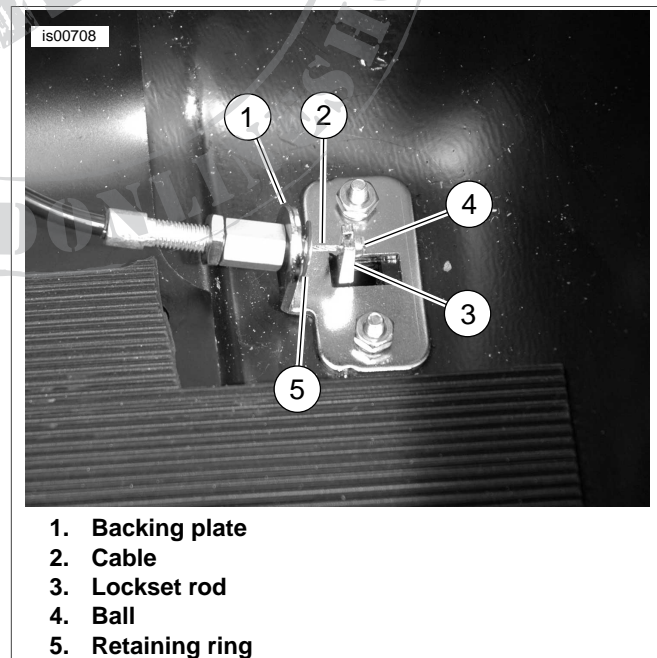

Figure 5. Install Cable Assembly
2. See Figure 5. Remove retaining ring at adjustment nut end of cable assembly.
3. Insert cable end through hole in lock set backing plate (1), and insert cable (2) into slot in lock set rod (3) so ball on end of cable (4) holds it in place.
4. Install retaining ring (5) into cable fitting groove.